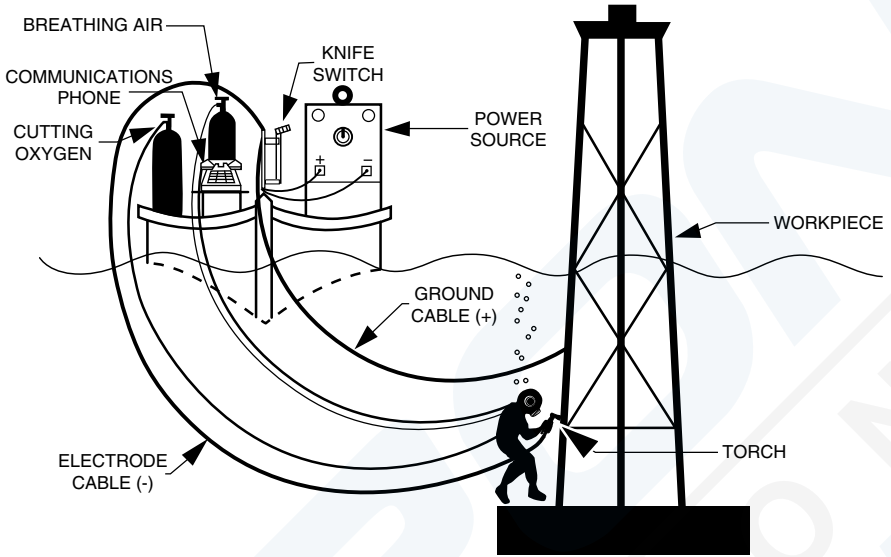

Figure 1: Typical Setup
- Figure 1 shows a typical setup. The switch must be fully enclosed and the operating handle extended through a slot.